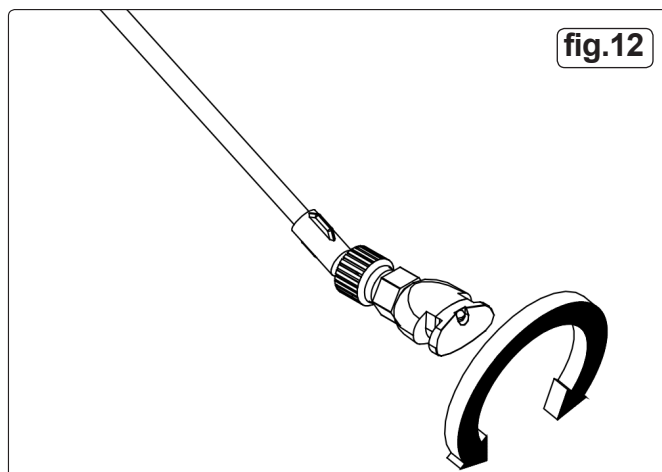

fig.12
- 8.2.1 If needed, rotate the broadcast nozzle so that the spray pattern is pointed down and evenly distributed. (fig.12)